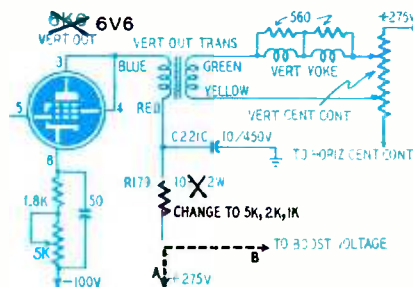

Fig. 3—Make changes shown in black if greater vertical sweep range is needed.
The increased high voltage makes it necessary to provide more vertical sweep than it is possible to obtain with optimum adjustment of the vertical height and linearity controls. In this case, make the changes shown in red in Fig. 3 and described in detail below.
2. Increase the voltage on the plate of the vertical output tube by reducing the value of resistor R179 (in series with the red primary lead of the vertical output transformer) from 10,000 to 5,000, 2,000, or 1,000 ohms as in Fig. 3, connection A. Use the highest resistance that will provide sufficient vertical sweep with good linearity.
3. If still more vertical sweep is desired, then disconnect the red lead of the vertical output transformer from B-plus and connect it to the boosted voltage at pin 1 of the flyback transformer through 10,000 to 5,000 ohms, as in Fig. 3, connection B. Be sure the 10- $\mu\text{f}$ , 450-volt decoupling capacitor C221C is NOT disconnected. Use the highest resistance that will provide good vertical linearity and sufficient sweep, as this connection loads down the boost voltage and reduces the high voltage about 1 kv.